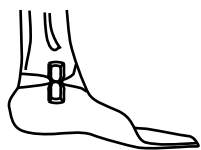
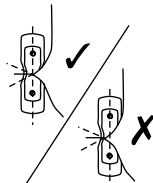

Fig. 4
Fig. 5
5. For free motion - Draw a "V" section posterior and anterior to the midline of each cavity(Fig.4). Ensure that the "V" does not extend past the center of the cavity (Fig.5). Cut the AFO from anterior to posterior using a thin-bladed saw according to marking.